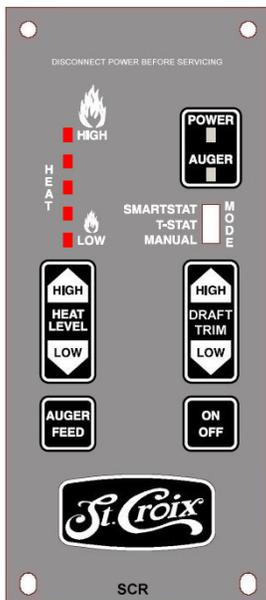

Figure 32
- 1 - **Program 1.** The Cycle Time is 7.5 seconds. This program will be the default program when the Stove is first plugged in. **This program is for use with Pellets & Cherry Pits.** (See figure 32 on page 41)
- 2 - **Program 2.** The Cycle Time is 8.5 seconds. **This program is for use with Pellets, Cherry Pits & Corn.** (See figure 32 on page 41)
- 3 - **Program 3.** The Cycle Time is 9.5 seconds. **This program is for use with Pellets, Corn, Wheat, Rye, Cherry Pits & Distillers Grain Pellets.** (See figure 32 on page 41)
- 4 - **Program 4.** The Cycle Time is 10.5 seconds. **This program is for use with Pellets, Corn, Wheat, Rye, Cherry Pits & Distillers Grain Pellets.** (See figure 32 on page 41)